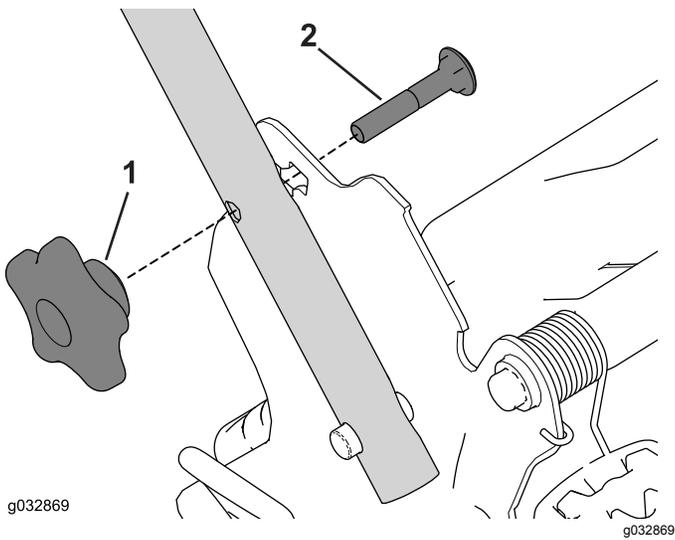

Figure 19
1. Remove and save the 2 handle knobs and 2 carriage bolts from the handle brackets (Figure 19).